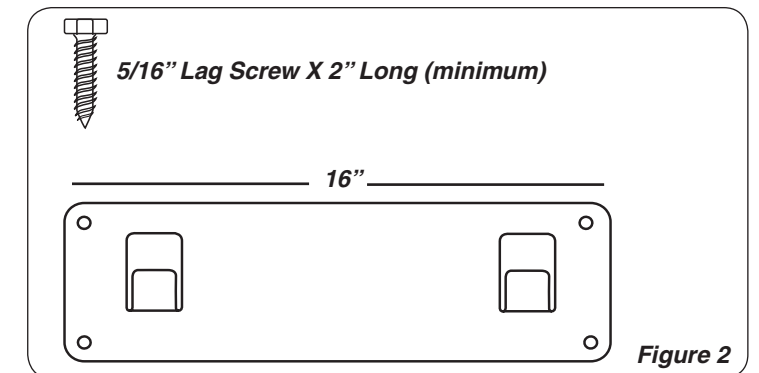

Figure 2
Your fan may be wall mounted using the new QuickMount® wall bracket supplied with your fan. (Figures 2 and 3)
3. Fasten wall bracket to mounting surface using 4 appropriately sized fasteners. Drill pilot holes as necessary. (See Figure 2).